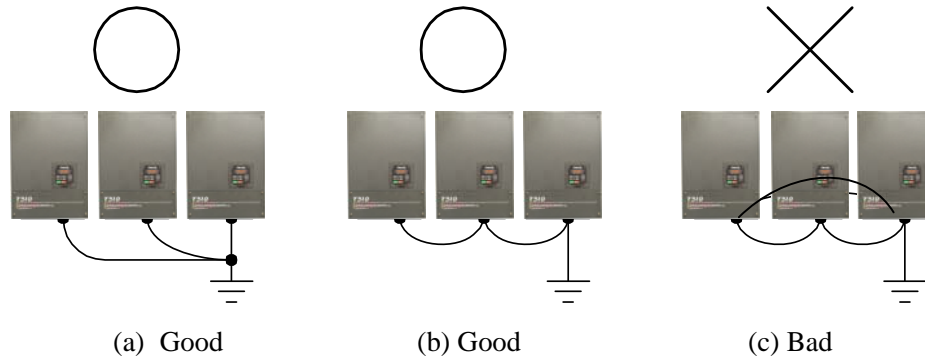

Fig. 3.6 Inverter Grounding
1. Connect the ground terminal (E) to ground having a resistance of less than 100Ω .
4. When using more than one inverter, be careful not to loop the ground wire, as shown below in Fig. 3.6